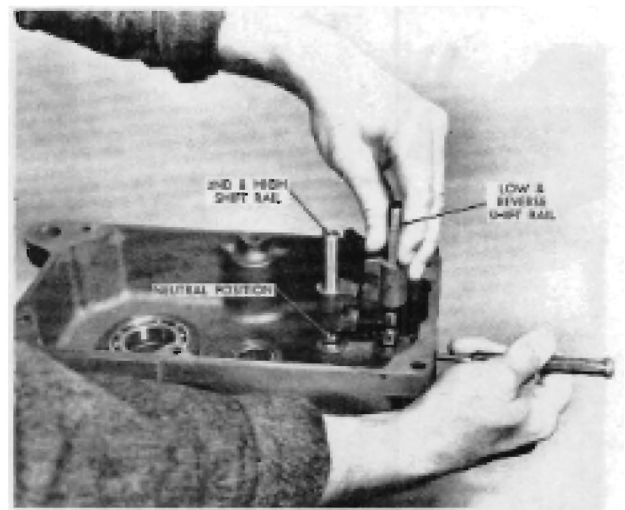

FIGURE 16
2. Install the 2nd and high shift rail and fork assembly (the one with the unequally spaced detent grooves.) See Figure 16.